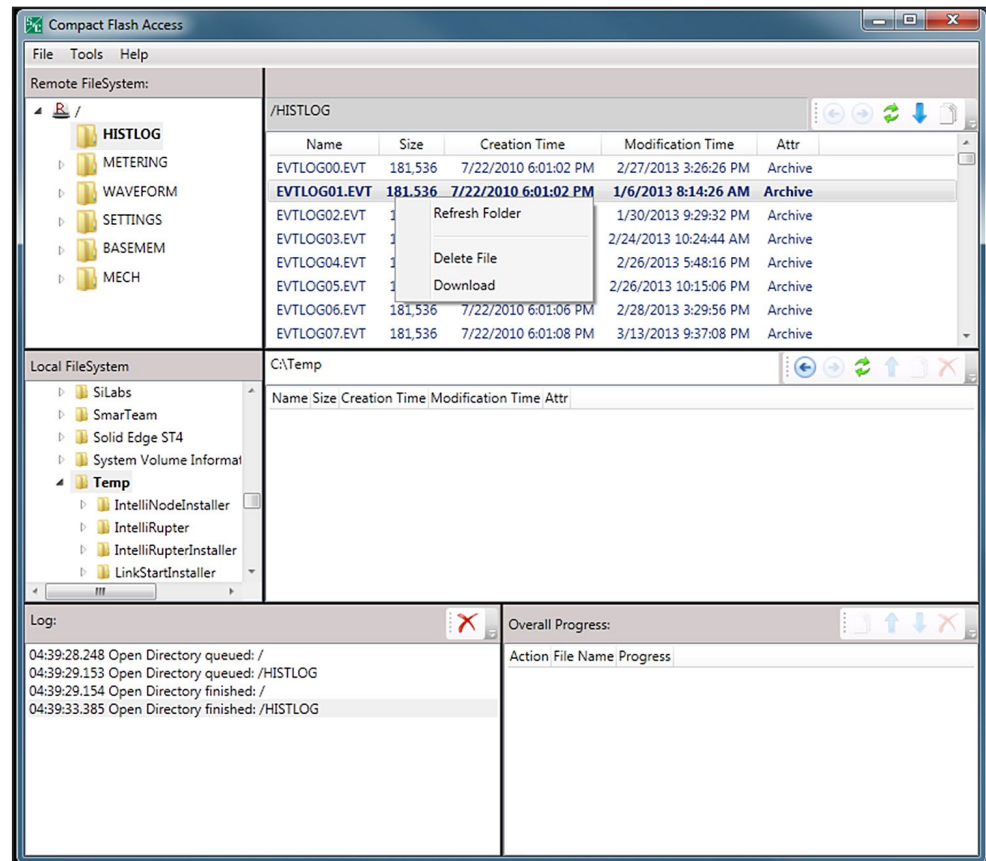

Figure 31. The Compact Flash Access dialog box.
The flash memory logs cannot be viewed using IntelliLink software; they must be downloaded to the computer. See Figure 31. Follow these steps to download the log files:
- STEP 1.** In the **Tools** pull-down menu, select “Compact Flash Access...” to open the Compact Flash Access dialog box. See Figure 31.